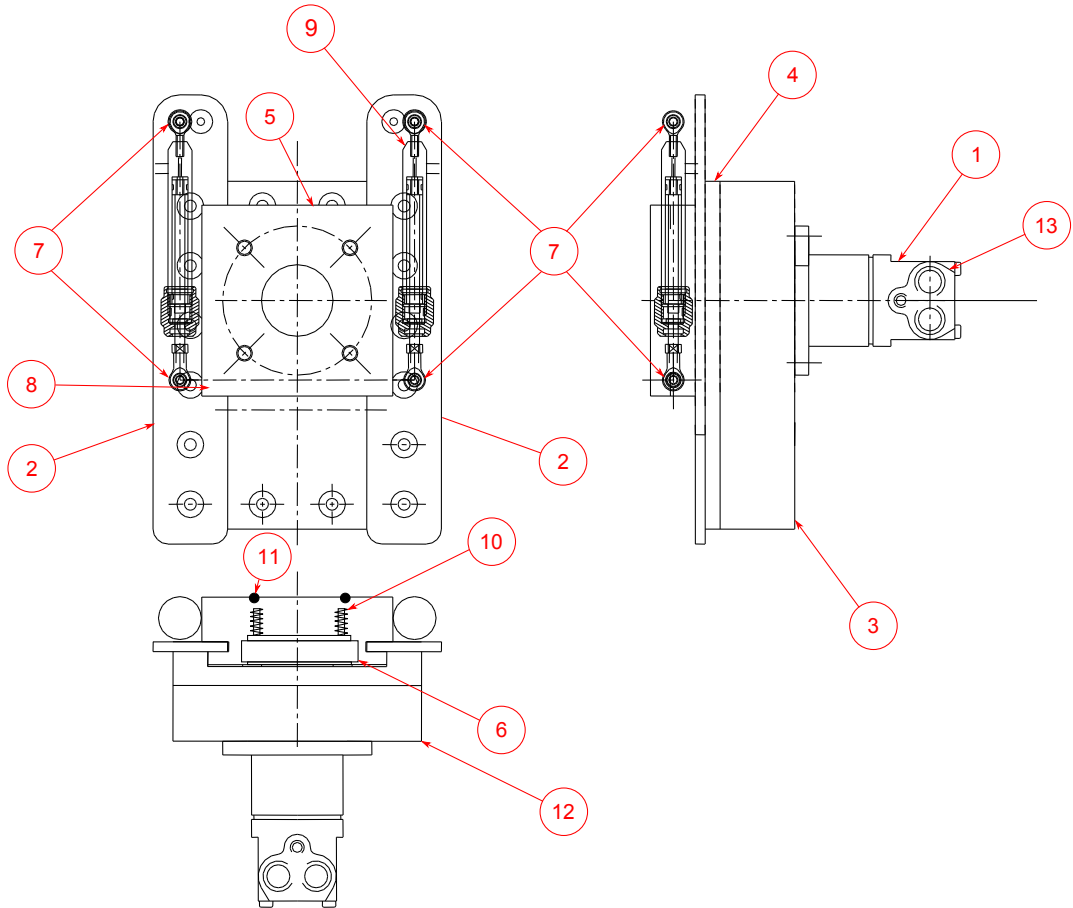

Figure 5.1. AnchorZip10 Parts Diagram
The relief interface block (item 5 on Figure 5.1, “AnchorZip10 Parts Diagram”) containing the valve ring is held in place by the slide bars mounted to the pump body and the hydraulic actuators. It may be removed by undoing the bolts securing the actuator spherical joints to the valve bar (item 8 on Figure 5.1, “AnchorZip10 Parts Diagram”), leaving the interface block free to slide along the slide bars to the edge of the pump body. Due to the spring tension it will be quite stiff to move and can be edged along by tapping the interface block with a soft faced hammer.
Once the interface block has reached the edge of the main block it should be very carefully knocked until the valve ring (item 6 on Figure 5.1, “AnchorZip10 Parts Diagram”) is visible by about 12mm. A G clamp should then be fastened around the block and exposed parts of the valve ring.